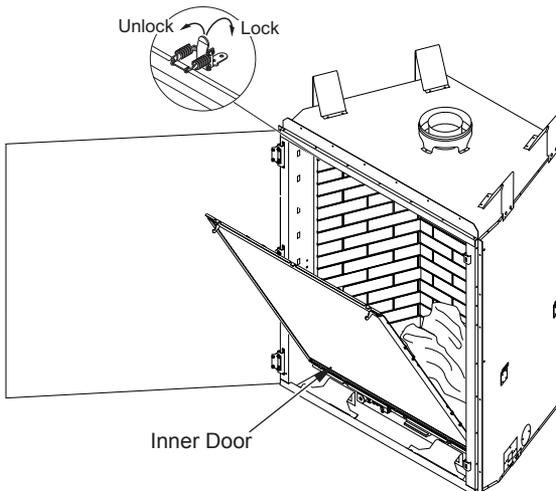

Figure 28 - Removing/Installing Inner Door
7. While holding inner door, release 6 latches, 3 top and 3 bottom (see Figure 28, page 19).
8. Slowly tilt open glass at a 30° angle and lift up to release glass from bottom retainer (see Figure 28, page 19).